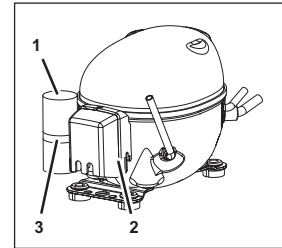

Fig. 55
2. Remove the cover (Fig. 55/2) from the electrical assembly.
4. Loosen the tightening strap (Fig. 55/3) of the starting capacitor (Fig. 55/1).
5. Remove the starting capacitor (Fig. 55/1) from the unit.
6. Position the new starting capacitor (Fig. 55/1) within the unit.
7. Attach the starting capacitor (Fig. 55/1) within the unit using the tightening strap (Fig. 55/3).
9. Attach the cover (Fig. 55/2) of the electrical assembly.